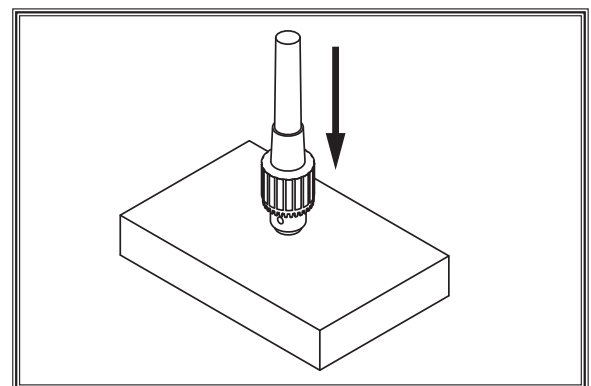

Figure 14. Tapping drill chuck/arbor on block of wood.
4. Hold assembly by arbor and tap chuck onto a block of wood with medium force, as illustrated in Figure 14.